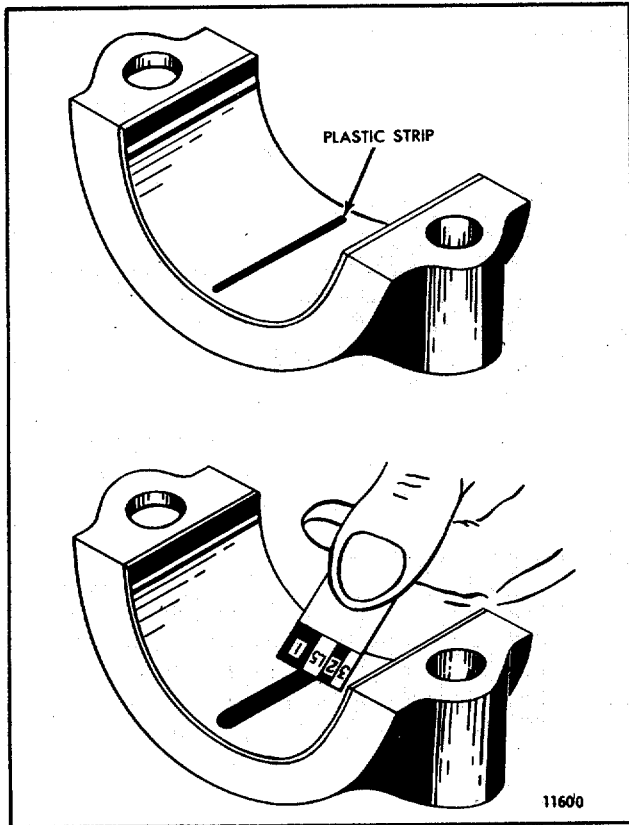

FIG.. 1 - Using Plastic Strip to Measure Bearing-to-Crankshaft Clearance
2. Place a piece of the plastic strip the full width of the bearing shell, about 1/4 " off center (Fig. 1).
5. Compare the width of the flattened plastic strip at its widest point with the graduations on the envelope (Fig. 1). The number within the graduation on the envelope indicates the bearing clearance in thousandths of an inch. Taper may be indicated when one end of the flattened plastic strip is wider than the other. Measure each end of the plastic; the difference between the readings is the approximate amount of taper.